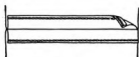

FIGURE 79
*Stitched Edge or Commercial Seam* (Figure 79). — Place the two right sides of the material together and stitch as for a plain seam. Press the plain seam open and with a warm iron press the raw edges under the fold toward the seam. Stitch evenly with the machine along the folded edges, but not to the material.